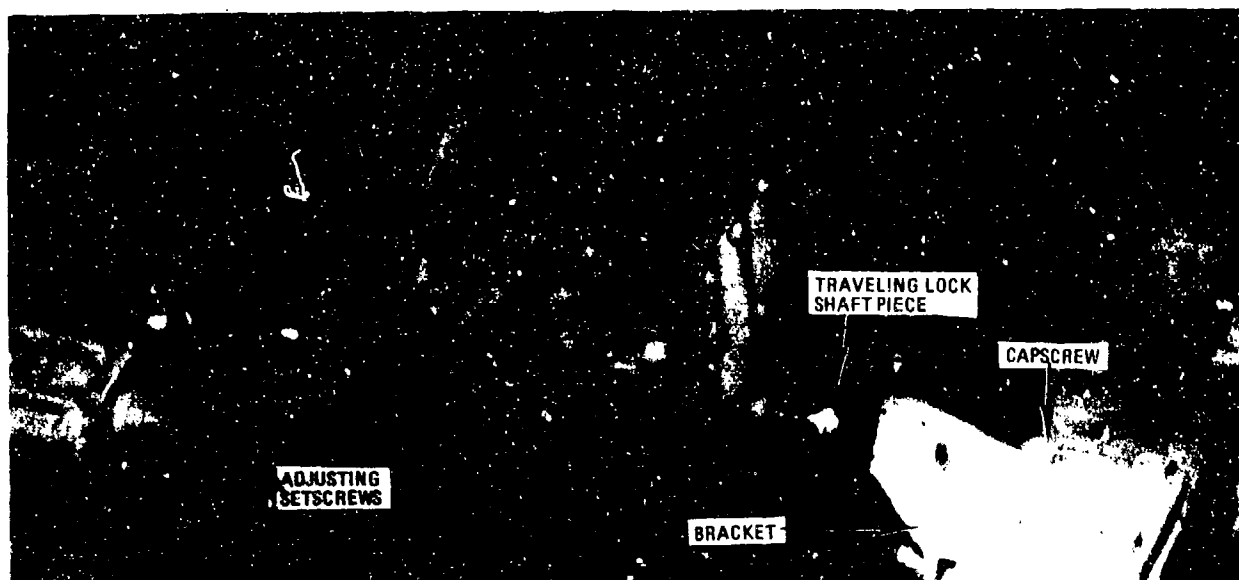

Figure 3-6. Cradle traveling lock.
1. The cradle traveling lock (fig 3-6) consists of two ball-shaped pieces mounted on the rear bottom end of the cradle.